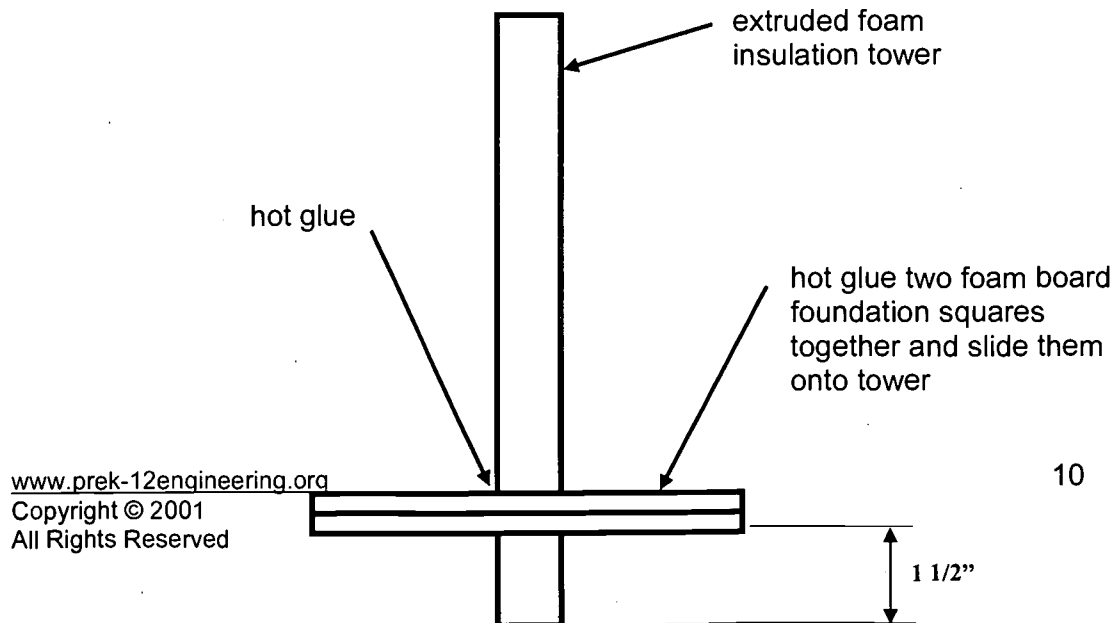

Figure 3: Assembly of Radar Antenna Tower Models
To assemble the model, see Figure 3: hot glue (2) foam board squares together making sure to line up the cutouts - then slide the foam insulation block through the cutout, so it sticks out 1 1/2", and hot glue in place